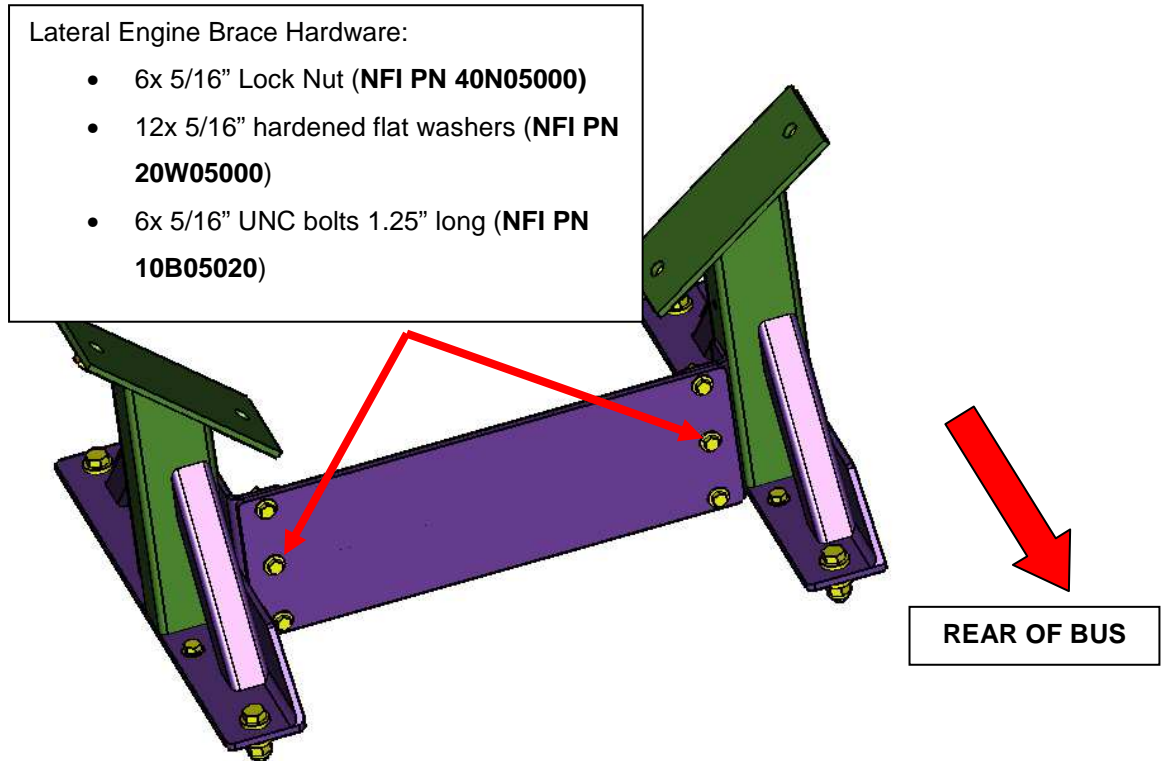

Figure 22: Lateral Engine Brace
- r. Install the lateral engine brace (**NFI PN 484008**) between the new engine mounts using six 5/16" Lock Nut (**NFI PN 40N05000**), twelve 5/16" hardened flat washers (**NFI PN 20W05000**), and six 5/16" UNC bolts 1.25" long (**NFI PN 10B05020**). Leave hardware loose to allow ease of generator mount install. Use Never Seize **NFI PN 5928660**. See Fig 22.